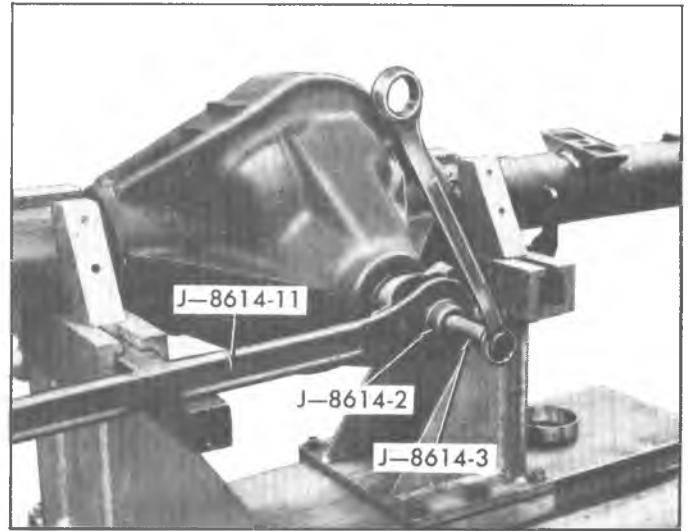

Fig. 6F—Removing Companion Flange
5. Thread end of J-8614-3 into small O.D. end of J-8614-2. Then with J-8614-11 installed as in step 3, insert J-8614-2 into J-8614-11 and turn it 1/8 of a turn to locked position. Remove flange by turning J-8614-3 while holding J-8614-11 as shown in figure 6F.